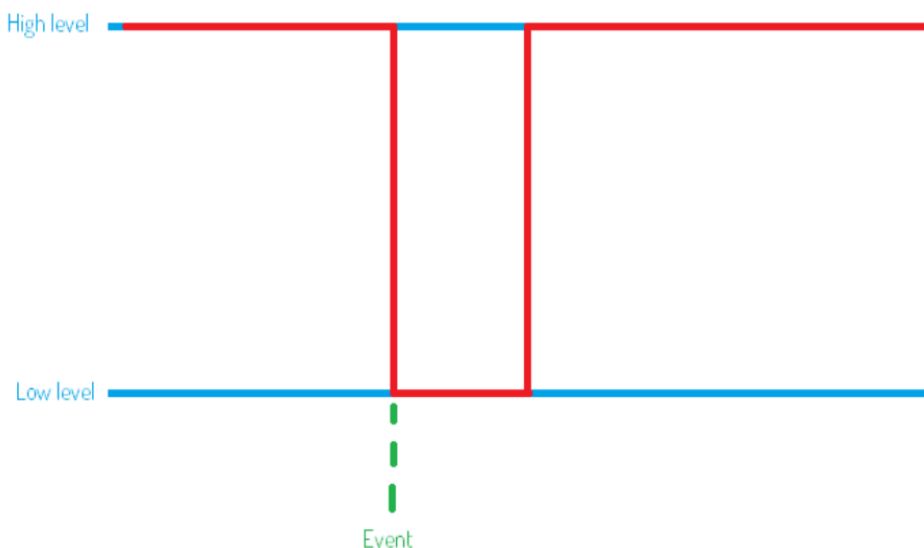

Figure 85. Trigger out setup for pulse low.
- Pulse Low (PL) – Each event is signalled by a signal transition from high to low then shortly low to high (Figure 85)